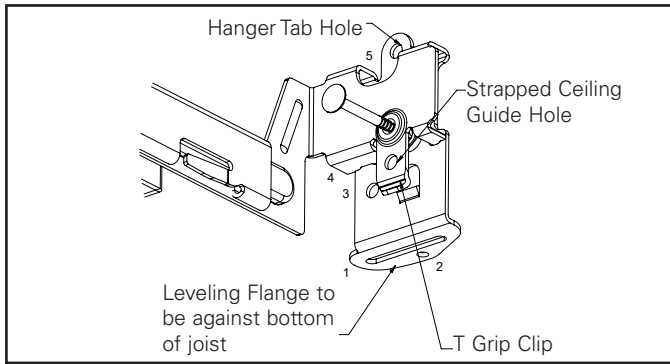

Figure 2.
1. Extend bar hangers to fit between joists. Position fixture by hammering nails into joists. Hanger bar flange should be against bottom of joist (Figure 2).
1. Use the guide hole below nail (Figure 2) to align bar hanger bracket below joist to adjust for the thickness of the strapping
2. Align the guide hole below the joist (Figure 2) to where you just see through the guide hole and hammer nails into joists.
1. Use leveling flange (Figure 2) to position housing on bottom of strapping (strapping must be 12" [30.5 cm] to 24" [61 cm] apart).
2. Use slot or hole in leveling flange (Figure 2) to secure the bar hanger bracket to the strapping with nails or screw (not included).